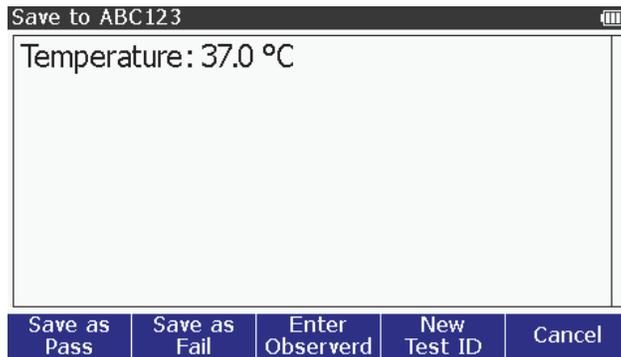

Figure 53. Save Screen
1. Push the **Save** softkey to show the Save screen. The screen in Figure 53 is the save screen for the temperature simulation function.